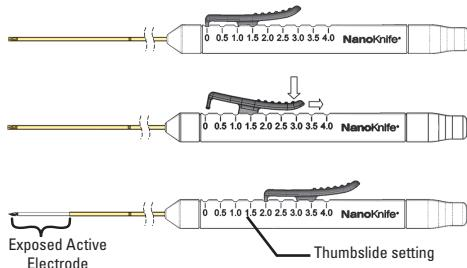

Figure 6: Electrode exposure adjustment
13. Verify the length of the exposed electrode indicated by the thumbslide on the handle (see Figure 6).